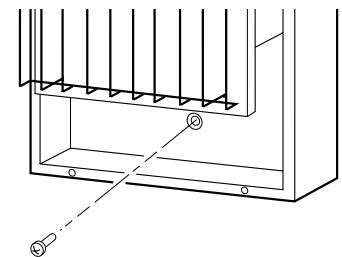

Figure 11 - Installing Bottom Mounting Screw
1. Locate bottom mounting hole. This hole is near bottom on back panel of heater (see Figure 11).
7. Insert bottom anchor screw through back panel into bottom anchor or drilled hole (see Figure 11).